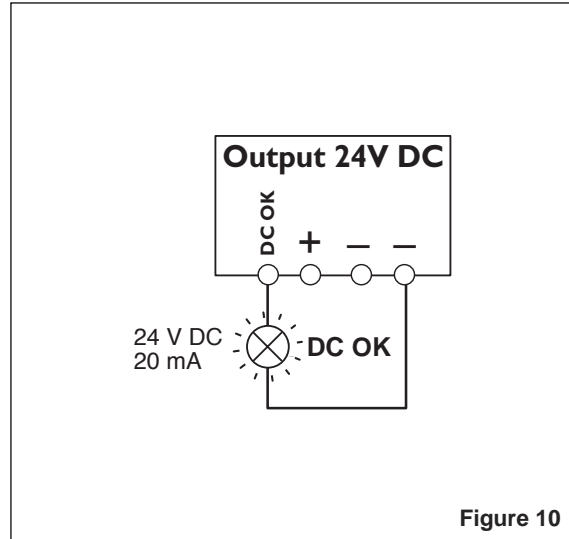

Figure 10
**Active Signal Output (③, Figure 10)**